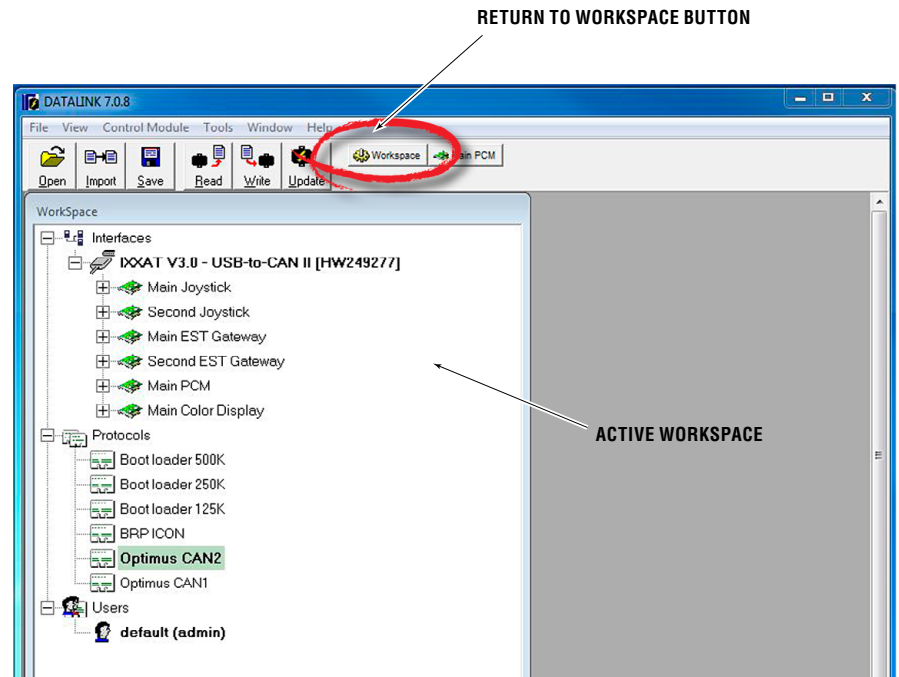

Figure C-2. Datalink Workspace. Your available interfaces may not be exactly as shown.
3. Once Datalink opens, the Interfaces section of the Workspace should become populated with components connected to the network. If not, double click on Optimus CAN2 in the protocols section. The components should turn green as communication is established. See figure C-2 to familiarize yourself with the Datalink workspace.
When you run the Datalink software it will open up with a window similar to the one shown in figure C-2.